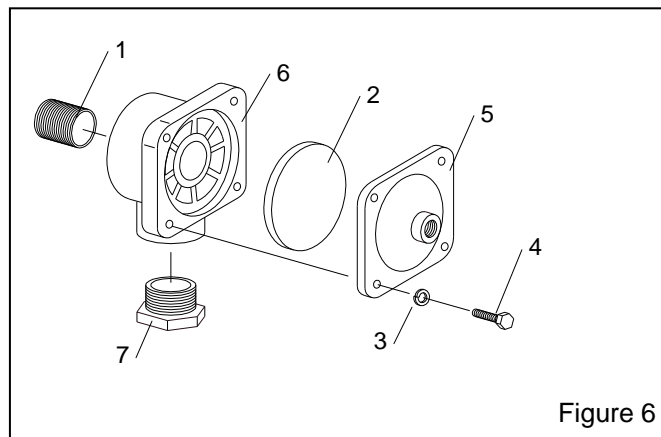

Figure 6
**9.3 1" Diaphragm Outlet Valve, Figure 6**